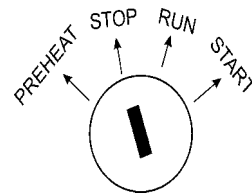

Figure 62. Off/Manual Auto Switch (OFF)
7. If the generator is equipped with an ignition switch, (Figure 62) turn the key to the left to the "OFF" position turn off the engine.